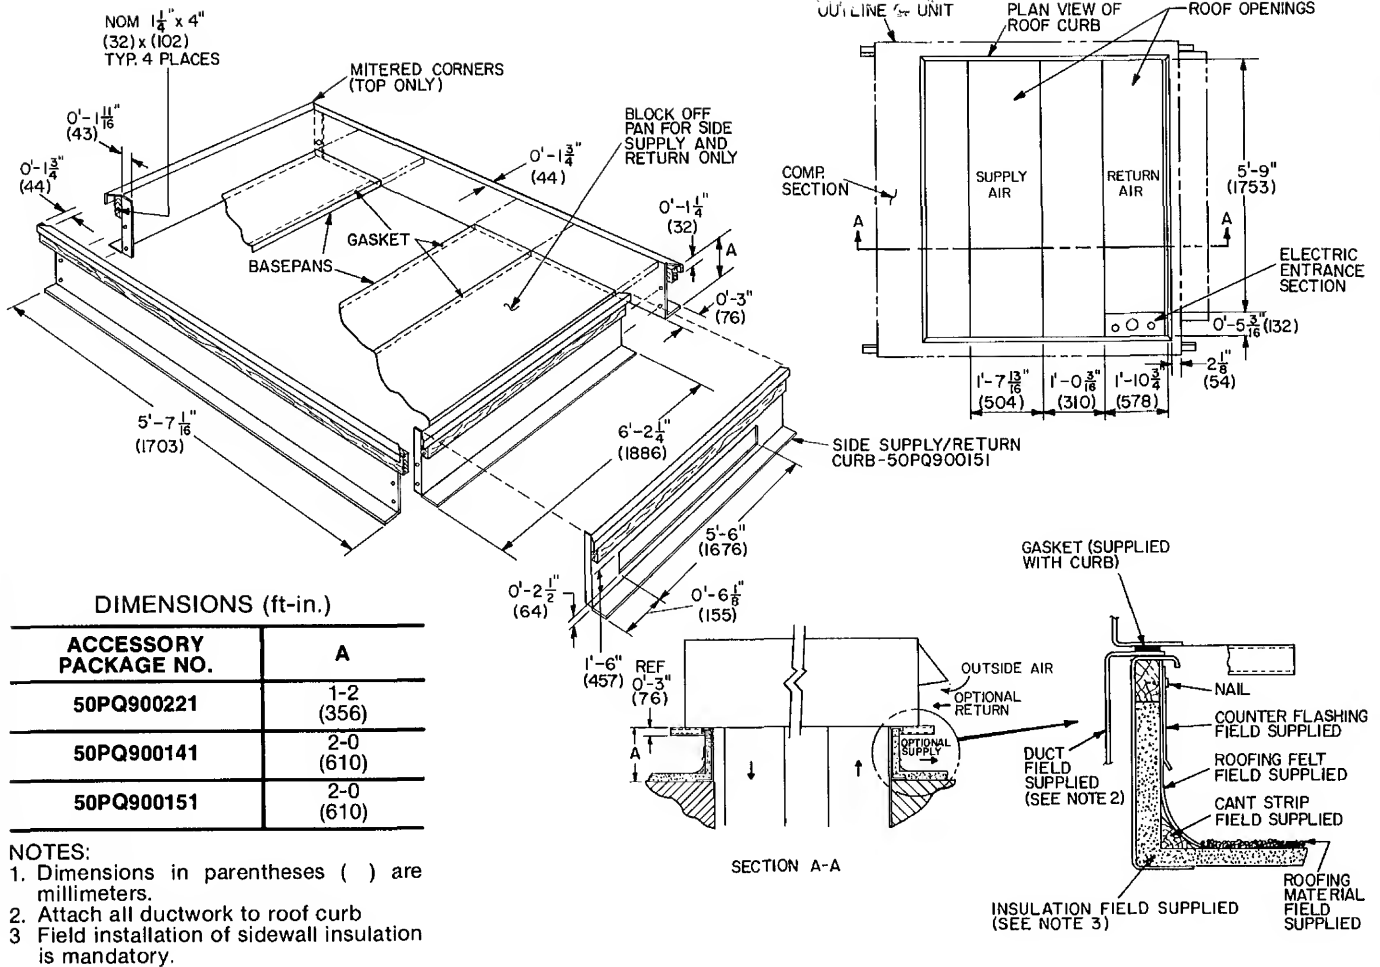

Fig. 1 — Roof Curb Details
**ROOF CURB** — Assemble and install accessory roof curb in accordance with instructions shipped with this accessory. Accessory roof curb and information required to field fabricate a roof curb are shown in Fig. 1 and 2. Install insulation, cant strips, roofing and flashing as shown. Ductwork can be installed to roof curb before unit is set in place. Curb should be level. Unit leveling tolerance is  $\pm 1/16$  in. per linear ft in any direction. This is necessary to permit unit drain to function properly. Refer to Accessory Roof Curb Installation Instructions for additional information as required.